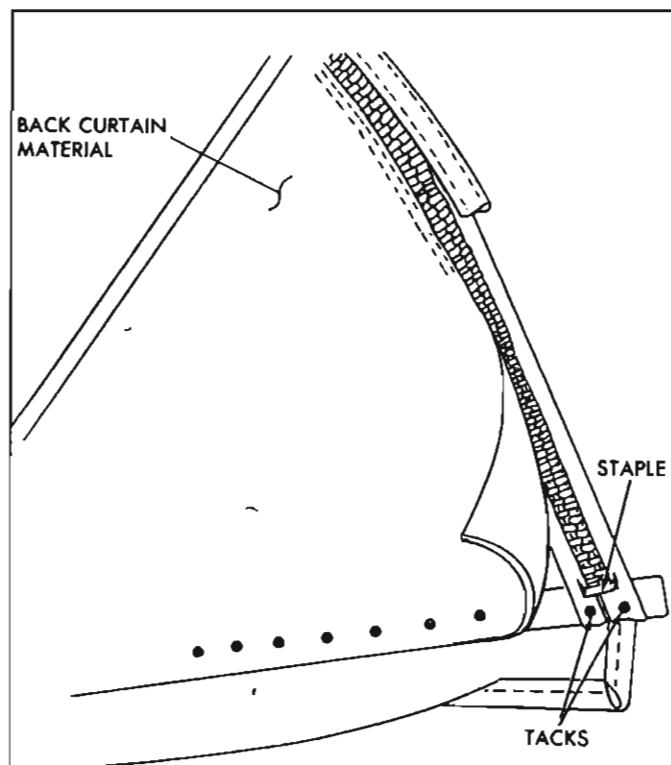

Fig. 65—Back Curtain Zipper Installation
9. Staple both sections of zipper tape together. Staples will aid in preventing zipper scoops from disengaging and also serve as a stop for the slide fastener (fig. 65).
11. Tack zipper tape to rear quarter trim stick (fig. 65). Zipper tape should not be pulled taut as zipper teeth may show through top material after top has been properly installed.